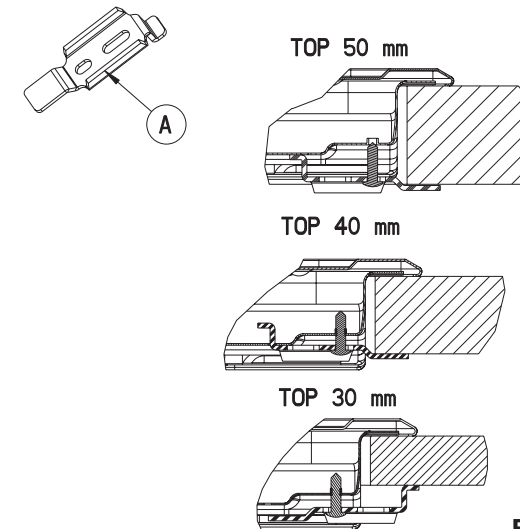

Fig. 3
- 3. Fit the brackets into the relevant bores shown by the arrow and fasten them by means of their screws in accordance with the tickness of the work top. (Fig. 3).
- After the electrical connection, fit the hob from the top and hook it to the fixing springs, as shown in fig. 3